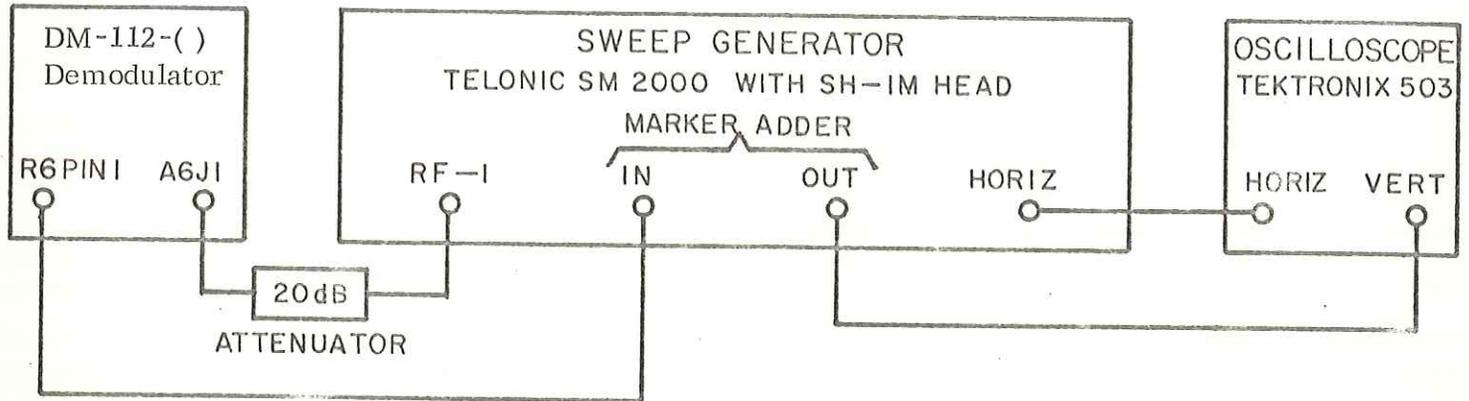
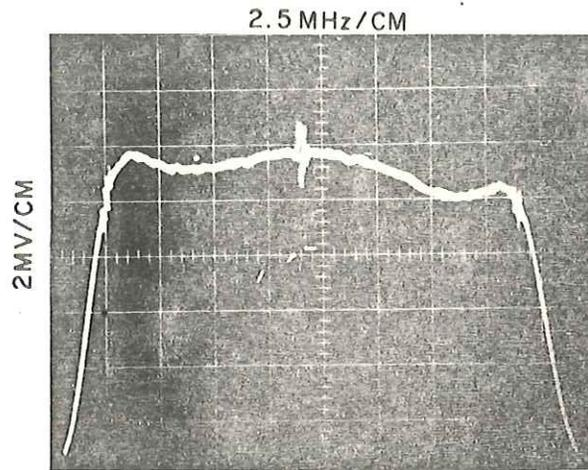

Figure 4-1. Test Setup, 160 MHz IF Amplifier Alignment (A6)
Figure 4-2. Typical Response, 160 MHz IF Amplifier (20 MHz BW)
- (1) Connect the equipment as shown in Figure 4-1. Resistor R6 pin 1 in Figure 4-1 refers to the front panel video gain control.
- (2) Place the IF Bandwidth switch in the 20 MHz position.
- (3) Set the sweep generator to 160 MHz. Turn on the internal 160 MHz marker or apply an external 160 MHz marker. A signal generator (Item 2 Table 4-1) applied to the external marker input of the sweep generator will produce a usable marker. Use the signal generators 1 MHz crystal calibrator to calibrate the marker signal in 1 MHz steps.
- (4) Adjust the oscilloscope and sweep generator controls to display a response curve similar to the oscillosgraph shown in Figure 4-2.
- (5) Adjust capacitor A6C13 for maximum gain.
- (6) Adjust capacitors A6C22 and A6C28 to produce the desired bandwidth.
- (7) Adjust capacitors A6C36, A6C42, A6C39 and A6C49 for a maximum amplitude, symmetrical response about the marker and for flatness of response.
- (8) Place the IF Bandwidth switch in the 10 MHz position.
- (9) Adjust capacitor A6C23 to produce the desired bandwidth.